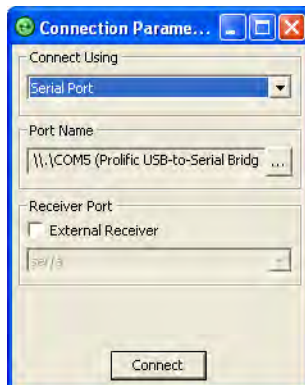

Figure 2-19. TRU – Connecting (2)
3. Select the COM Port of the computer to which the receiver is connected and click **Connect** (Figure 2-19).